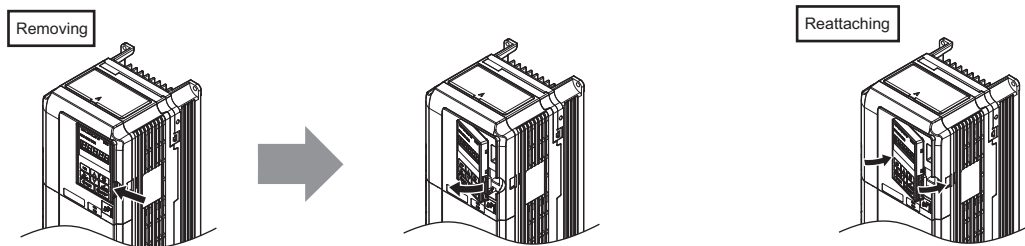

Figure 3.16 Removing/Reattaching the Digital Operator
- Unhook the left side of the front cover then swing the left side towards you as shown in Figure 3.16 until the cover comes off.